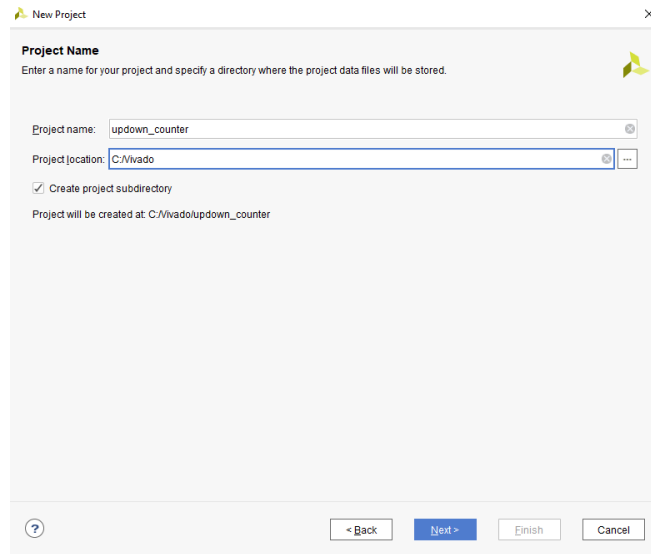

Figure 2: Setting project name
3. The next step is to provide a name for the new project. Vivado will use this name when generating the project's folder structure. For this tutorial, set the name of the project as "updown\_counter" (see Fig. 2). After setting the project's name, click "Next" to continue.